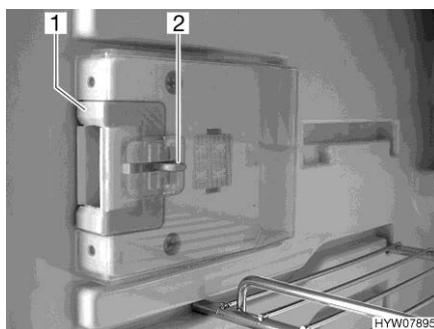
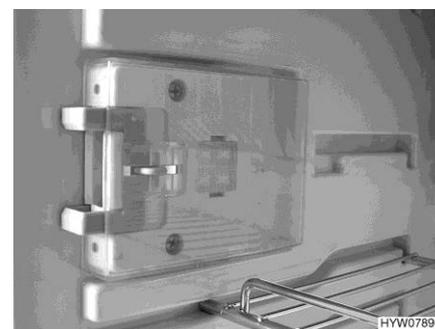

Fig. 163 Locking device (normal position)
Fig. 164 Locking device (ventilation position)
- Press down the unlocking device (Fig. 163,2).
- Push locking device (Fig. 163,1) forwards (Fig. 164).